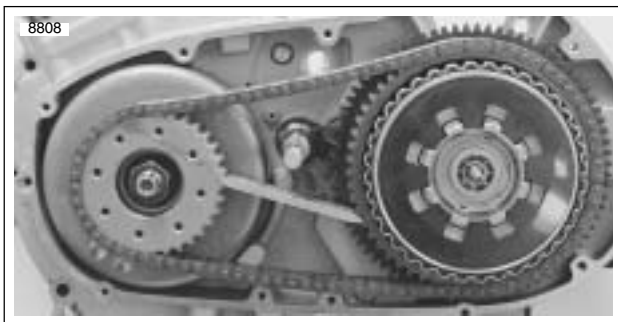

Figure 6-23. Sprocket Locking Link Tool (Part No. HD-38362) for XB9R models and (Part No. HD-46283) for XB12R models.
- a. See Figure 6-23. Install SPROCKET LOCKING LINK (Part No. HD-38362).